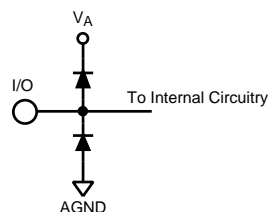

Figure 2.
- (1) The inputs are protected as shown below. Input voltage magnitudes above V_A or below GND will not damage this device, provided current is limited per Note 4 of the Absolute Maximum Ratings Table. However, errors in the A/D conversion can occur if the input goes above 2.6V or below GND as described in the Operating Ratings section. See Figure 2.
- (2) With a full scale differential input of $2V_{P-P}$, the 14-bit LSB is $122.1\text{ }\mu\text{V}$.
- (3) Typical figures are at $T_A = 25^\circ\text{C}$ and represent most likely parametric norms at the time of product characterization. The typical specifications are not ensured.
- (4) Parameters specified in dBFS indicate the value that would be attained with a full-scale input signal.
- (2) With a full scale differential input of $2V_{P-P}$, the 14-bit LSB is 122.1 μV .
- (4) I_{DR} is the current consumed by the switching of the output drivers and is primarily determined by load capacitance on the output pins, the supply voltage, V_{DR} , and the rate at which the outputs are switching (which is signal dependent). $I_{DR} = V_{DR}(C_0 \times f_0 + C_1 \times f_1 + \dots C_{13} \times f_{13})$ where V_{DR} is the output driver power supply voltage, C_n is total capacitance on the output pin, and f_n is the average frequency at which that pin is toggling.
- (4) This parameter is ensured by design and/or characterization and is not tested in production.
- (5) I_{DR} is the current consumed by the switching of the output drivers and is primarily determined by load capacitance on the output pins, the supply voltage, V_{DR} , and the rate at which the outputs are switching (which is signal dependent). $I_{DR} = V_{DR}(C_0 \times f_0 + C_1 \times f_1 + \dots C_{13} \times f_{13})$ where V_{DR} is the output driver power supply voltage, C_n is total capacitance on the output pin, and f_n is the average frequency at which that pin is toggling.